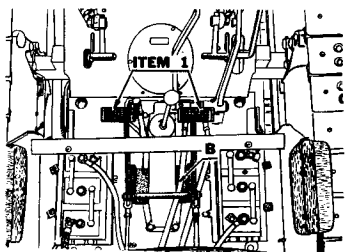

Figure 5 Mounting Hoist Control Pedals
ITEM 1 - Figure 5
Disconnect link (B), Figure 5, from left steering clutch lever.
Remove four 3/8" capscrews from the transmission case cover on the tractor main frame. See Figure 5.
pedals. Four capscrews having sufficient extra length with four plain washers and lockwashers are supplied with this item to fasten the brackets to the tractor case cover. See (Item 1), Figure 5.